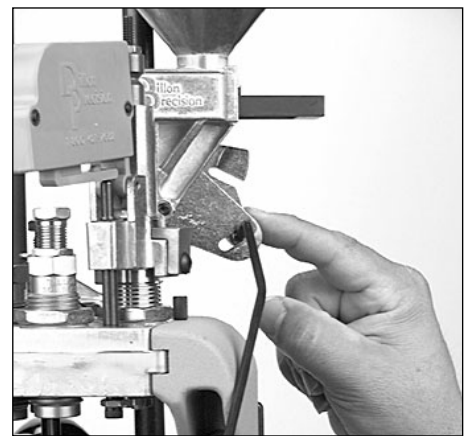

FIG 50
2. Insert the rod (#13629) through the holes **FIG 50**.